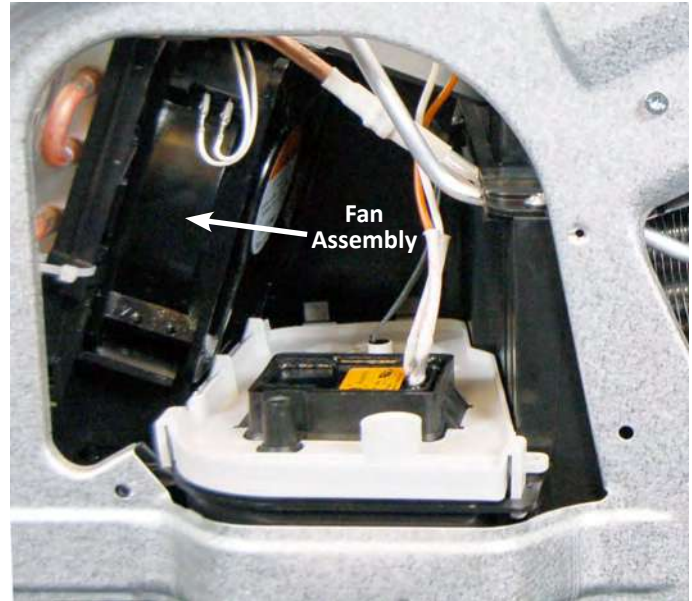

Figure 6
9. Locate the post condenser fan motor assembly, mounted to the left of the sump assembly (see Figure 6 below).